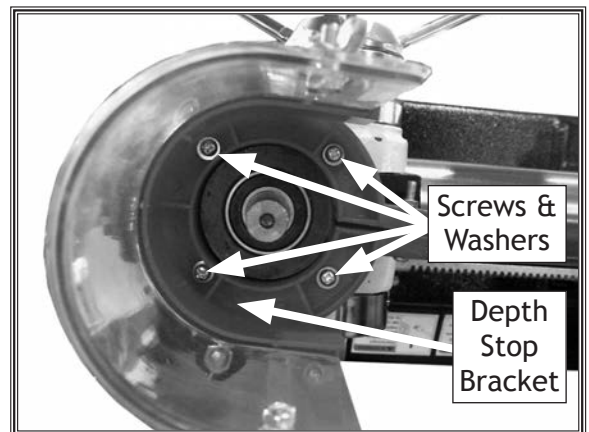

Figure 23. Chuck guard secured to depth stop bracket.
22. Secure chuck guard to bracket with (4) M4-.7 x 10 Phillips head screws, 4mm lock washers, and 4mm flat washers, as shown in **Figure 23**.